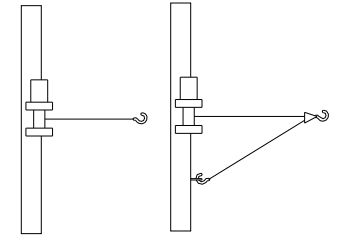

Figure 1
2. Never overload. Be sure all equipment used meets the winch's maximum line pull rating. We recommend using the pulley block option supplied to double line the wire rope (see Figure 1). Double line with a pulley block to reduce the load on the winch, wire rope and battery. When double-lining, pulley blocks should be rated to a minimum of two times the winch's line pull rating.